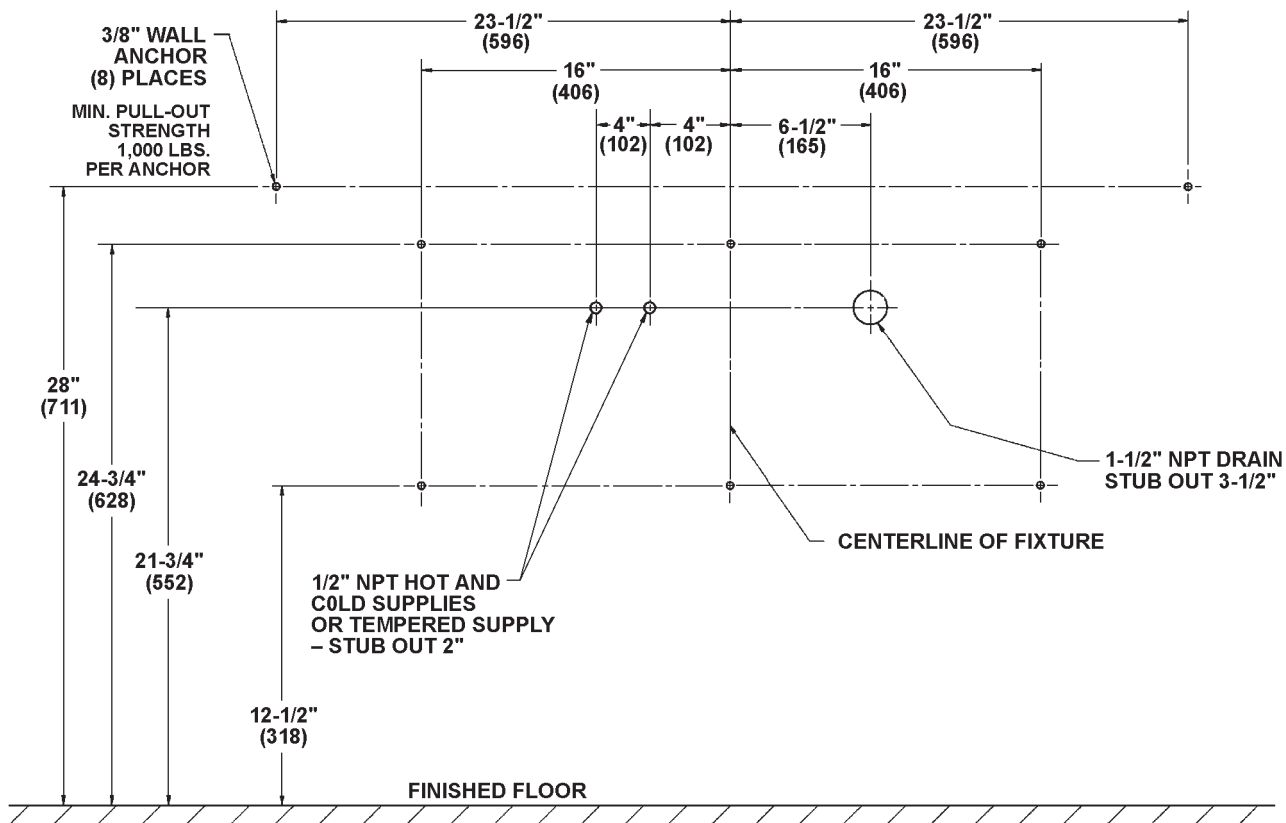
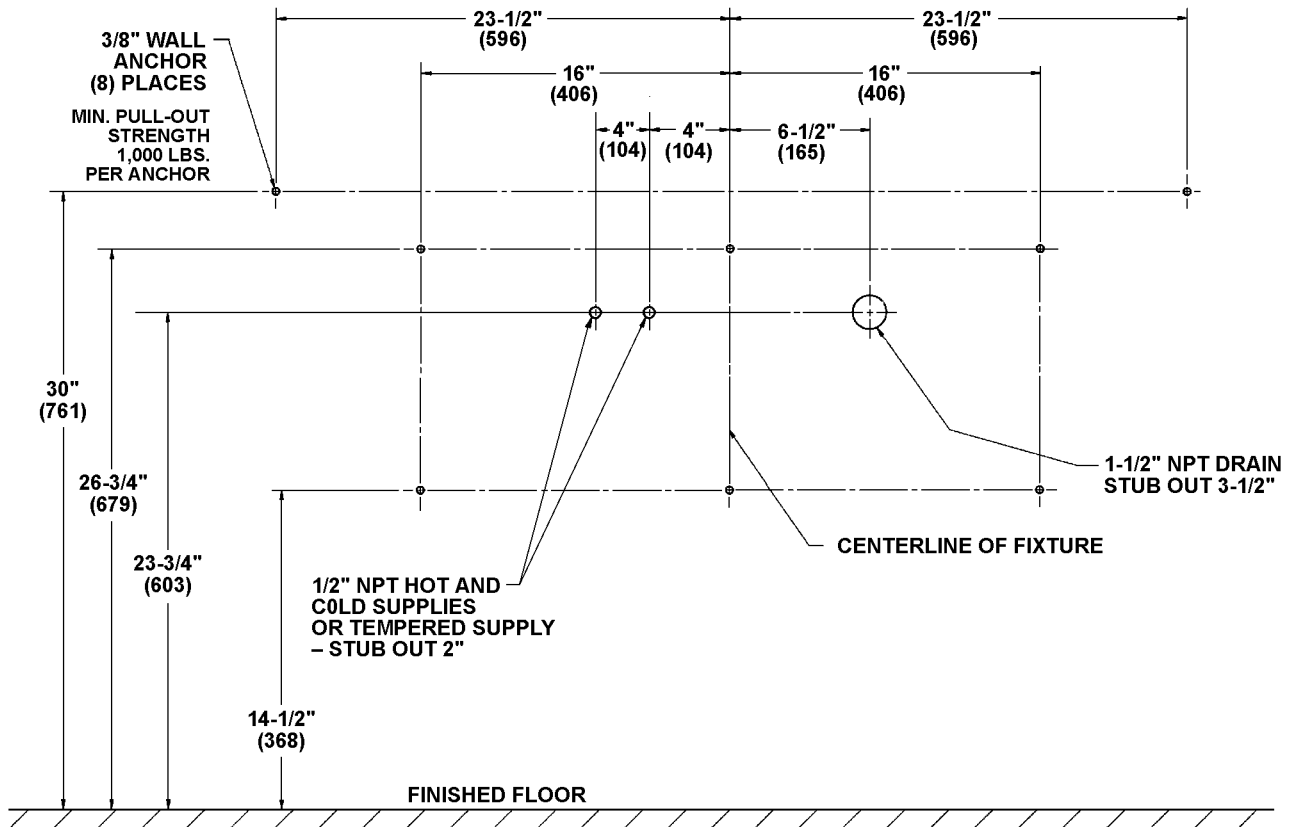

Figure 1
Figure 1a
Note: See Figure 1 below, Figures 1a and 2 on page 6 when roughing in the Express®.
IMPORTANT: Dimensions shown in Figure 1 are for Juvenile Height grades Pre-K thru 5 or 6, and in Figure 1a for Juvenile Height grades 6 thru 8 or 9.
3. Install (8) 3/8" wall anchors with a minimum pull-out rating of 1,000 lbs. (supplied by installer) at the locations shown in Figures 1 and 1a (on pages 5-6).